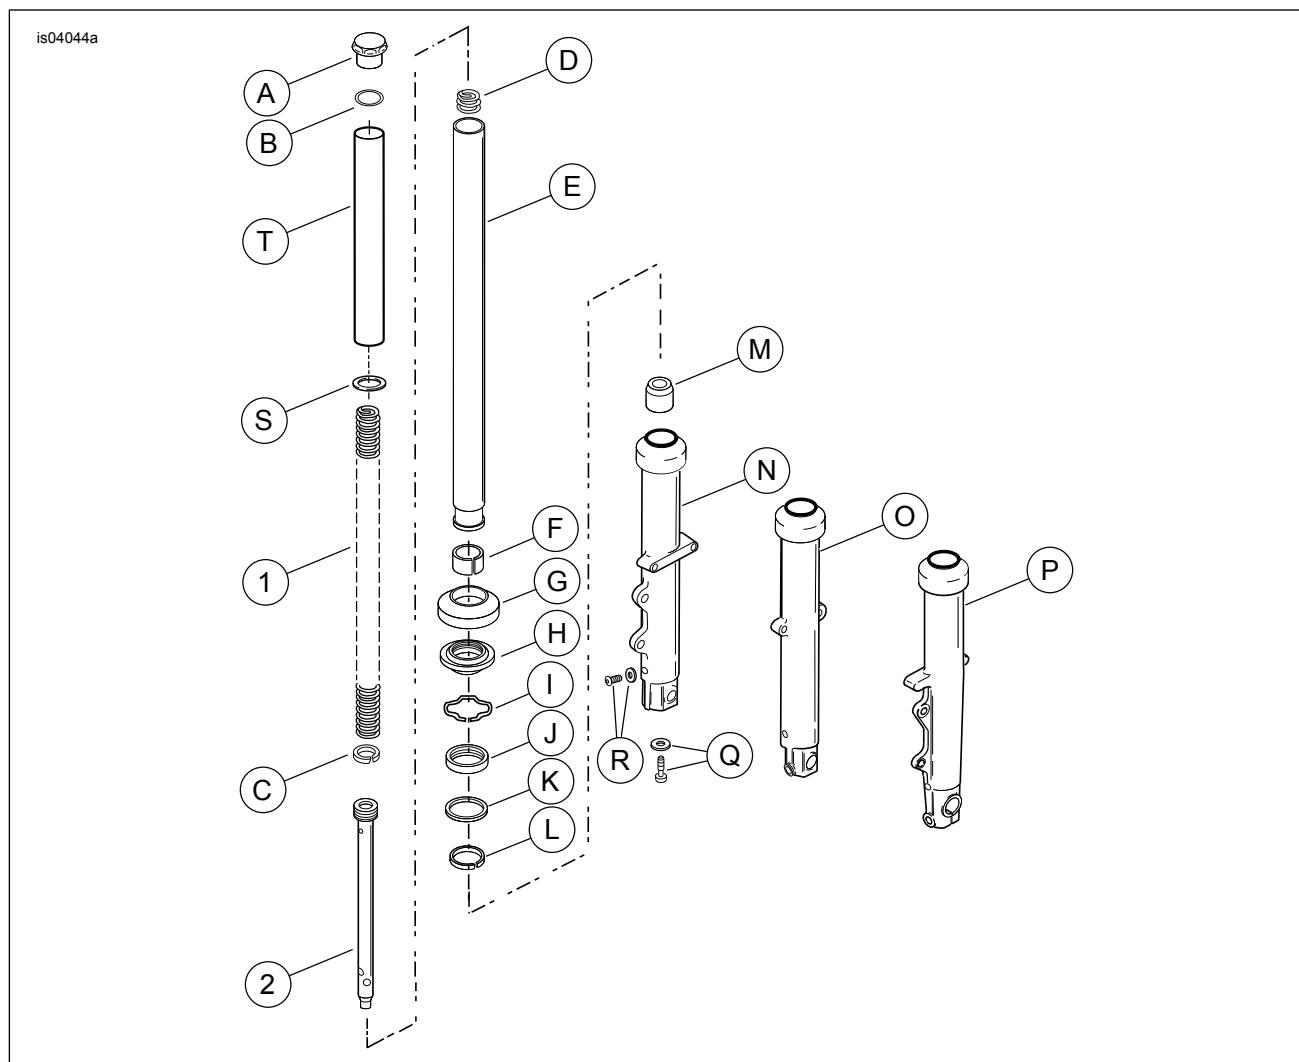

Figure 8. Service Parts for XL Front End Lowering Kit (45500-09)
See Figure 8 and Table 1.
2. See Figure 8. Place a drain pan under fork and remove drain screw (R).
4. See Figure 8. Remove the spring washer (S) and spring collar (T) and save for reuse.
5. Remove the fork spring (1) from the fork tube.
6. Remove cover (G) and dust seal (H).
7. Compress internal circle clip (I). Remove clip from groove in top of slider bore.
10. Put a shop rag on the floor. Turn the fork assembly upside down and press the end of the spring against the rag. Compress the spring and remove the 6 mm screw and washer (Q) from end of fork slider (N, O or P). Use air impact wrench for best results. Discard 6 mm screw (S) and copper crush washer (R).
11. Remove fork spring (1) and damper tube (2) from fork tube. Discard fork spring.
12. Withdraw slider tube (E) from slider (N, O or P) until lower bushing (F) on slider tube contacts upper bushing (L) in slider. Use lower bushing in a slide hammer motion to gently tap out oil seal, spacer and upper bushing from slider bore.
13. Remove lower stop (M). The lower stop is in the slider (N, O or P) or on the bottom end of the damper tube (2).
1. See Figure 8. Install new lower bushing (F) in groove of slider tube (E). Expand bushing only wide enough to fit over the tube.
2. Place rebound spring (D) over damper tube. Verify that the damper tube ring (C) is installed in groove at top of new damper tube (2). Insert damper tube into slider tube (E).
3. Insert new spring (1) into slider tube (E) with the dense coil end down. Push damper tube (2) through opening at the bottom of the tube using the spring. Place the lower stop (M) over the end of the damper tube.
5. Install the screw and washer (Q) into the bottom of the slider (N, O or P). Move the slider tube through its full range of travel within the slider several times to verify proper component alignment. Then, applying downward force on the spring and tighten the screw. Tighten screw to 15–25 N·m (11–18 ft-lbs).
6. Place the upper bushing (L), spacer (K) (concave side down), oil seal (J) (lettering side up), and FORK SEAL AND BUSHING INSTALLATION TOOL (Part Number HD-36583) over slider.
8. See Figure 8. Install internal circle clip (I) into groove in top of the slider bore.
9. Install dust seal (H) and cover (G) at the top of the slider.
10. Install drain screw (R) into the lower end of the slider. Tighten the screw to 8–11 N·m (72–96 in-lbs).
11. Remove main spring (1) from slider tube (E).